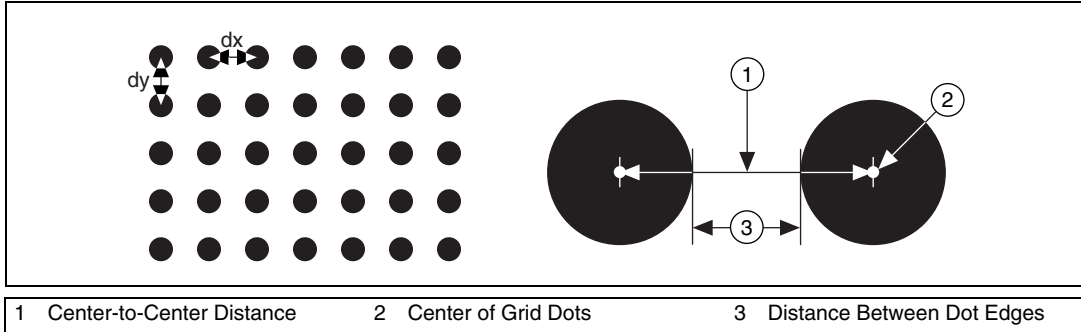

Figure 6-1. Defining a Calibration Grid
A calibration template is a user-defined grid of circular dots. As shown in Figure 6-1, the grid has constant spacings in the x and y directions. You can use any grid, but follow these guidelines for the best results:
- The center-to-center distance between dots must range from 18 to 32 pixels, as shown in Figure 6-1.
- The minimum distance between the edges of the dots must be 6 pixels, as shown in Figure 6-1.